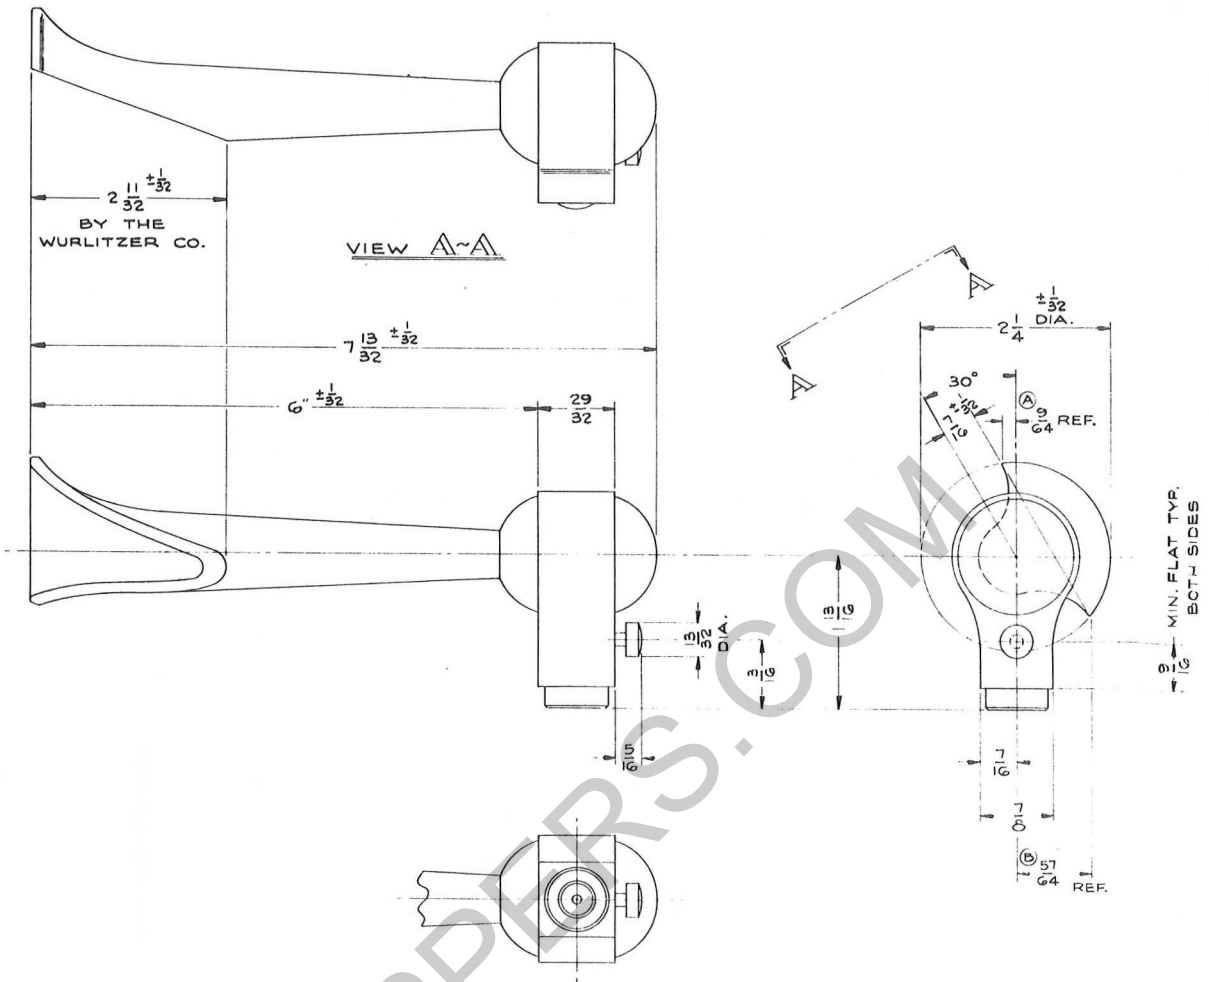

Figure 5.
15. Verify that Trumpet, Part No. 130036, conforms to the details outlined in Figure 5. Should Trumpet not conform to Figure 5 it must be cut to the dimensions shown in Figure 5 prior to installing Trumpet in Mounting Bracket and Actuator Assembly.